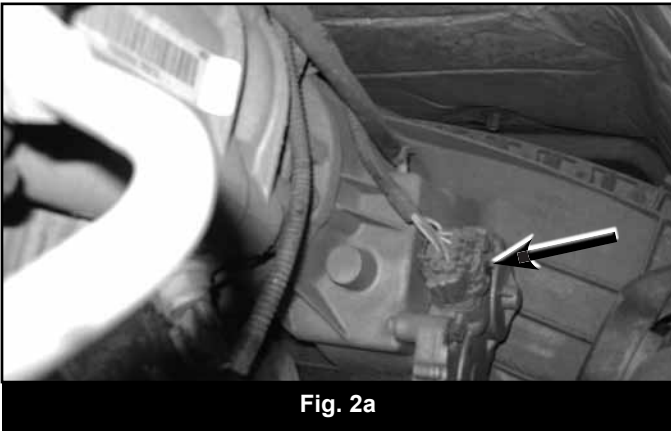

Fig. 2a
6. Disconnect the transfer case shift linkage for manual transfer cases, disconnect the transfer case shift module for auto shift applications. (Fig 2a, 2b)